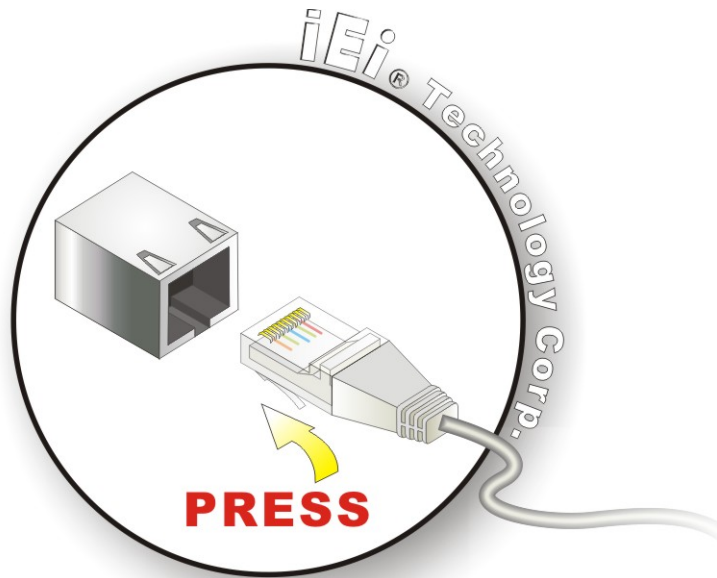

Figure 5-23: LAN Connection
Step 2: **Align the connectors.** Align the RJ-45 connector on the LAN cable with one of the RJ-45 connectors on the WAFER-9102. See **Figure 5-23**.